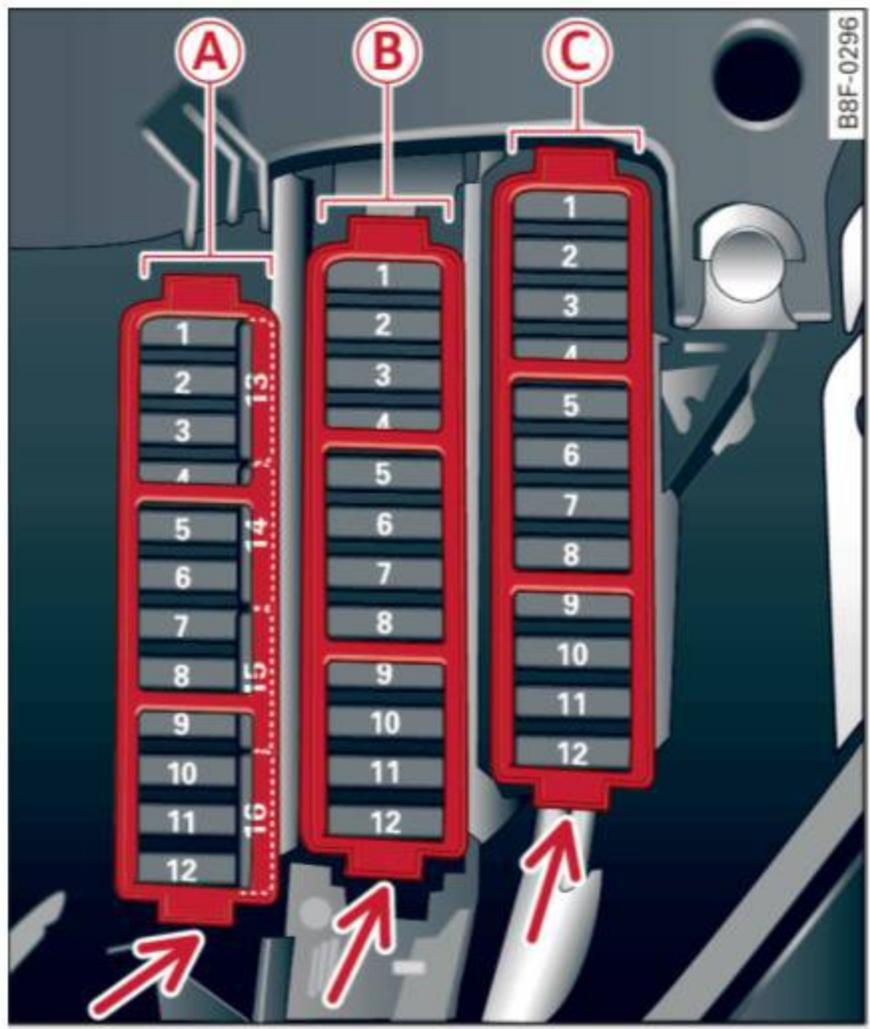

Fig. 183 Left cockpit: fuse panel with plastic clip
- ▶ Remove the colored plastic clip from the fuse panel, if necessary ⇒ page 232, fig. 183. You can dispose of the plastic clip.